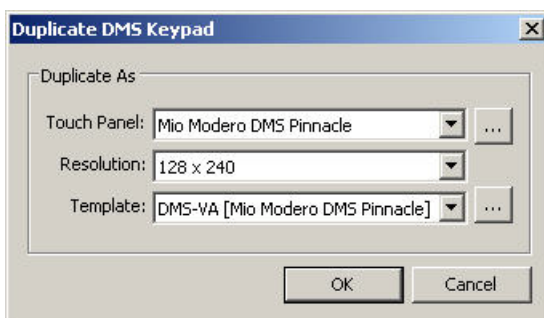

FIG. 141 Duplicate DMS Keypad dialog
2. Select **Edit > Duplicate** (or right-click on the selected Keypad and select **Duplicate** from the System Diagram context menu). This action invokes the *Duplicate DMS Keypad* dialog (FIG. 141).